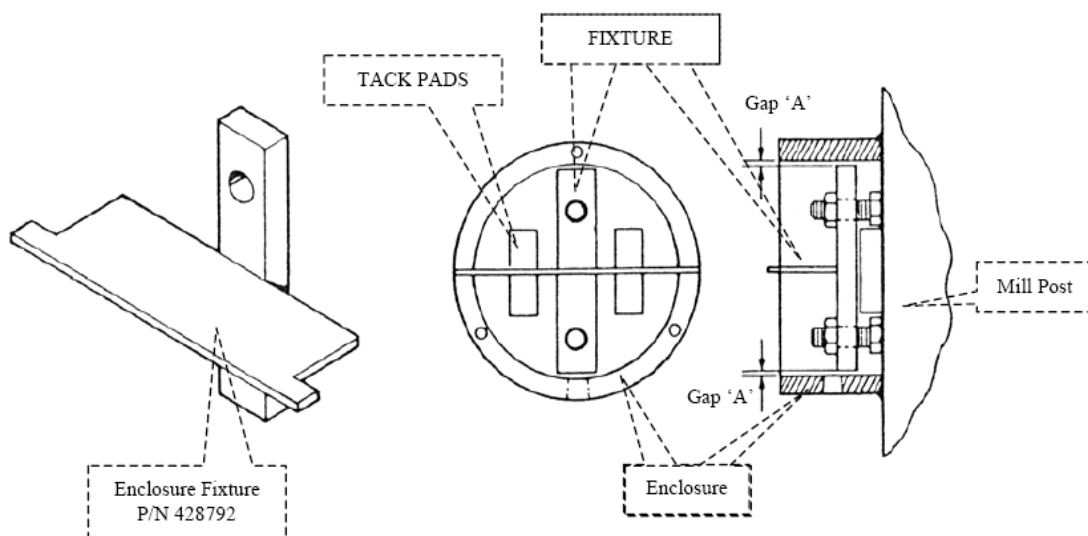

Fig 3.10 Enclosure with Installation Fixture
- b) Insert the welding fixture into the enclosure as shown in fig. 3-10. Orientate as indicated.
- d) Rotate the enclosure to locate the conduit hole. It is important that the conduit hole is located at the bottom to prevent contaminants from collecting in the housing. Check that gaps 'A' shown in fig. 3-10, are at least 1/16 inch (1.5 mm), then tighten the two hex nuts lightly to hold the assembly in place.